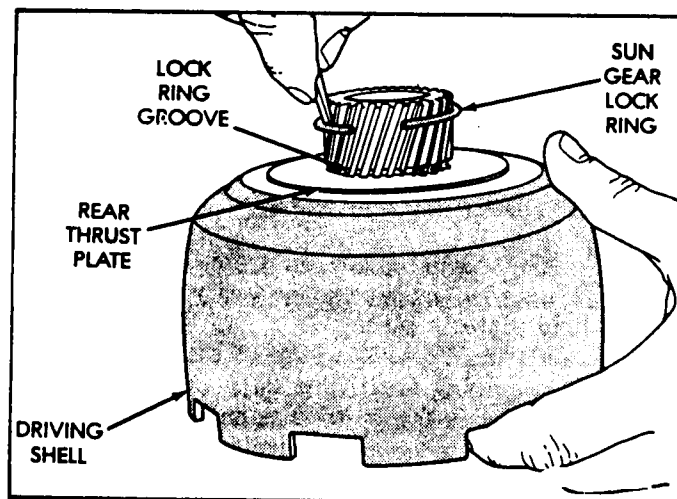

Figure 80
12. With the sun gear and shell setting on wood block, align rear thrust plate and install the sun gear locking ring, as shown in Figure 80.